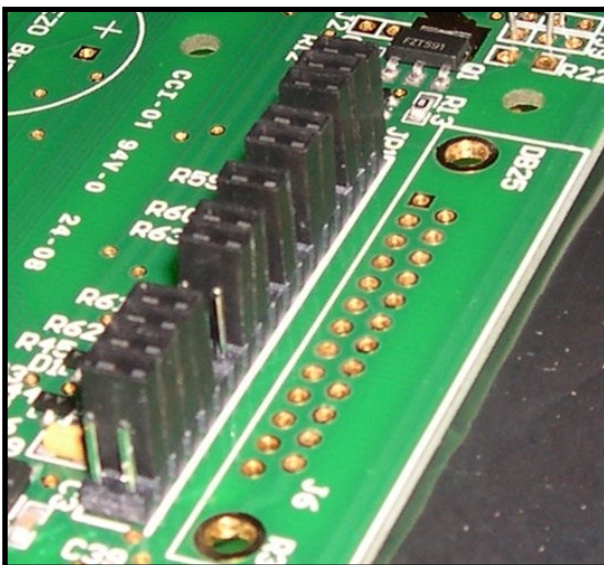

Figure 5b. Jumper Strip
- You will need three jumper wires one of which is shown in Figure 5b.
- Using Figure 5b place the Jumper strip on the board matching the orientation.